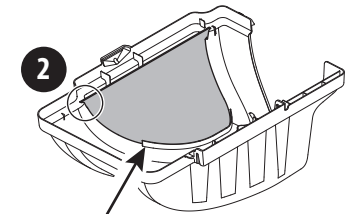

Figure 13
4. Make sure to feed the screen under the lip. Clip in the other side by pushing the screen into the provided cutout (2). See Figure 13.